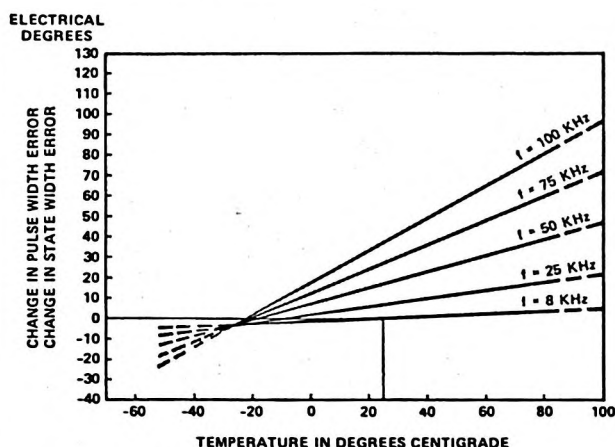

Figure 1. Typical Change in Pulse Width Error or in State Width Error due to Speed and Temperature
- In a properly assembled lot 99% of the units, when run at 25°C and 8 KHz, should exhibit a pulse width error less than 32 electrical degrees, and a state width error less than 40 electrical degrees. To calculate errors at other speeds and temperatures add the values specified in Figures 1 or 2 to the typical values specified under encoding characteristics or to the maximum 99% values specified in this note.